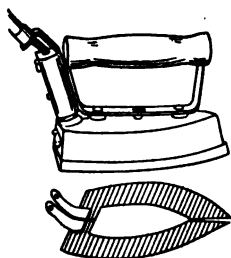

FIG. 290. — Flatiron heated by electricity, and the resistance wire in it shown separately.
**329. Heating by electricity.** We are familiar with the fact that electric cars are heated by electricity, and that an electric light bulb gets hot, and we may have used or seen electric flatirons (Fig. 290), electric ovens, or electric furnaces; but perhaps we do not realize that every electric current, however small, generates heat. This is because heat is generated so slowly in an electric bell, telegraph, or telephone, that it is radiated off without raising the temperature of the wires appreciably. It is this heating effect which limits the output of a generator, for if too heavy a current is drawn from the machine, the armature and field coils get so hot that the insulation is set on fire.